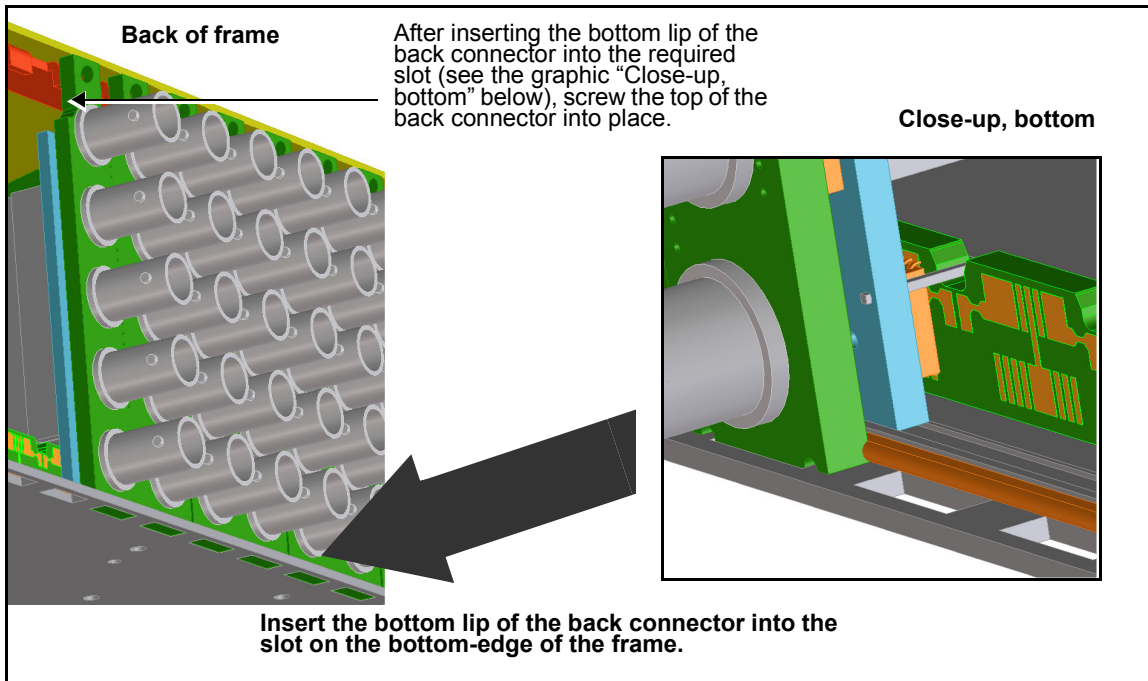

Figure 2-6. Installation of Back Connectors, Rear View
2. Install the new back connector by inserting the bottom lip into the required frame slot and then screwing it into place. See Figure 2-6 on page 23.